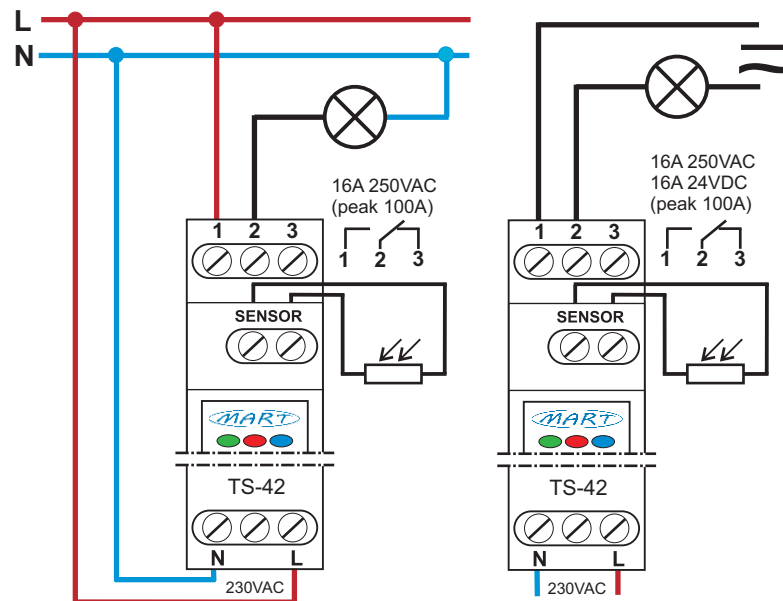

Fig. 2. : Connection diagrams for the TS-42-4 TWILIGHT SWITCH automatic device.
3. Connect the wires in accordance with the diagram (fig. 2)